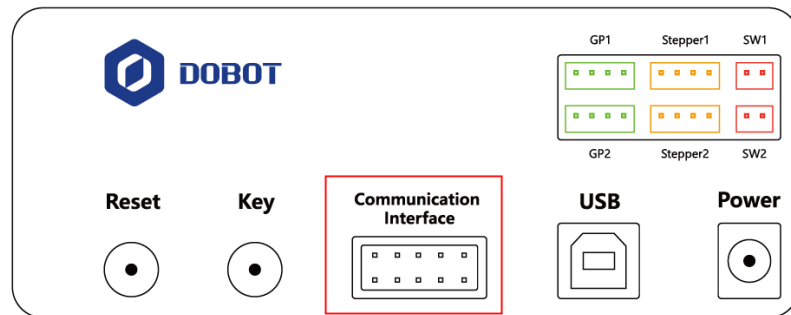

Figure 5.166 Connect with Bluetooth kit
- Step 1** Connect the Bluetooth kit to the UART interface on the base, as shown in Figure 5.166.